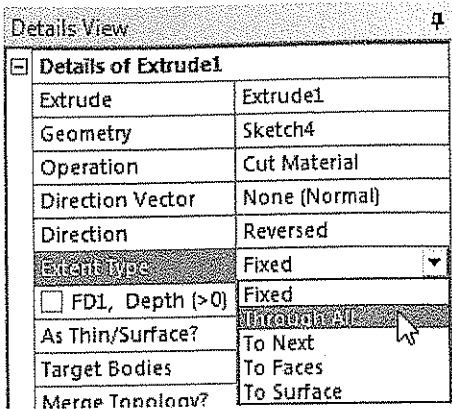

Figure 4-28 Selecting the *Through All* option from the *Extent Type* drop-down list
- 15. Select the **Through All** option from the **Extent Type** drop-down list, as shown in Figure 4-28.